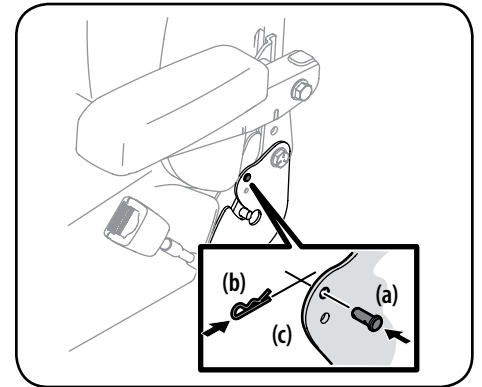

Figure 2-10
6. Tilt the seat forward until the recliner bearing plate (c) is below the clevis pin (a) and then re-insert the cotter pin (b) to secure the seat in place. See Figure 2-10.